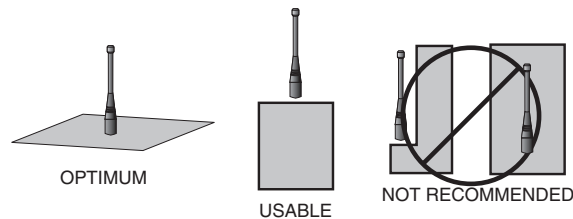

Figure 24: Ground Plane Orientation
2. Optimum performance is obtained from a $\frac{1}{4}$ - or $\frac{1}{2}$ -wave straight whip mounted at a right angle to the ground plane (Figure 24). In many cases, this isn't desirable for practical or ergonomic reasons, thus, an alternative antenna style such as a helical, loop or patch may be utilized and the corresponding sacrifice in performance accepted.